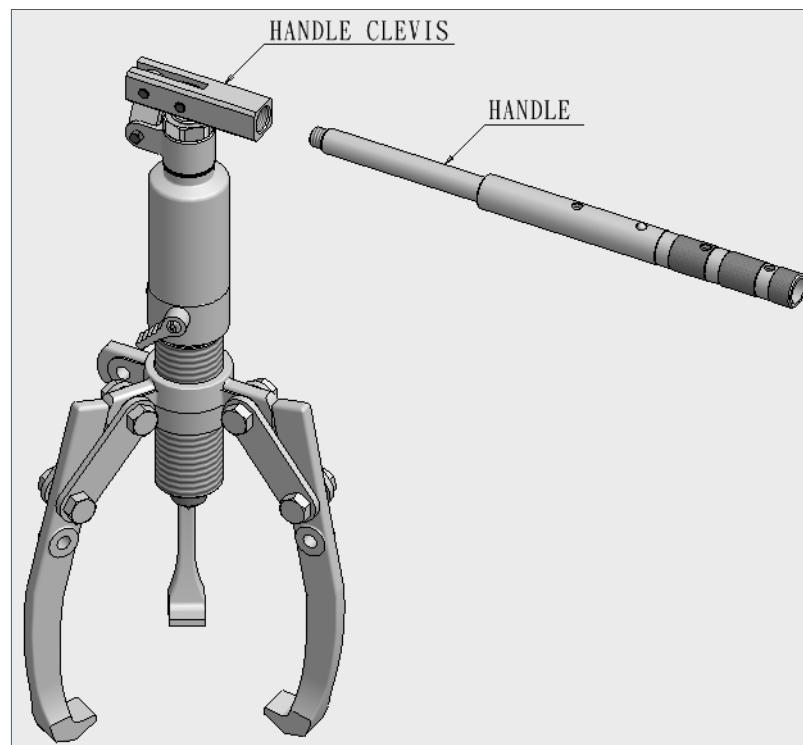

Figure 1 – Handle Attachment
5.1.2 Screw the foldable handle into the handle clevis. See Figure 1.